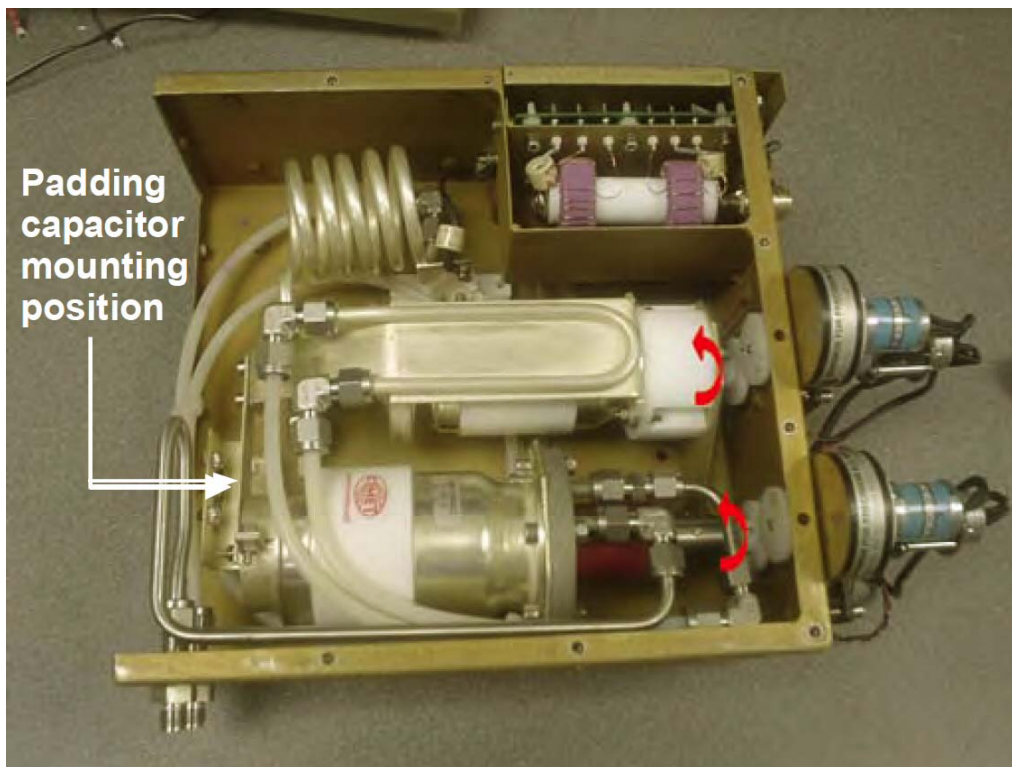

Figure 3-3 Capacitor shafts rotation direction
- 5 Confirm the operation of each motor using the manual button. An increase in capacitor position should make the vanes overlap more. In the case of a vacuum capacitor, an increase in position should turn the capacitor shaft anti-clockwise, when looking at it from the motor end (see Figure 3-3). Check with a capacitance meter in case of doubt.
- To find the minimum position, turn the capacitor shaft in the direction of the arrow, shown in **Figure 3-3**. At the minimum position, the shaft becomes stiff; at the maximum position, the shaft becomes loose. Do not try to turn the shaft past these points. If when turning the capacitor to the maximum position, the shaft becomes loose, turn the shaft back in until it just begins to bite, this is the maximum position.
For vacuum capacitor AMU (AMU board with capacitor range mod.): (applies to all system types) Rotate the vacuum capacitor shaft clockwise as you look at it from the motor end (see **Figure 3-3**) until the shaft just becomes stiff, and then turn in half a turn. Making sure the motors don't mesh, drive both motors to minimum (000).